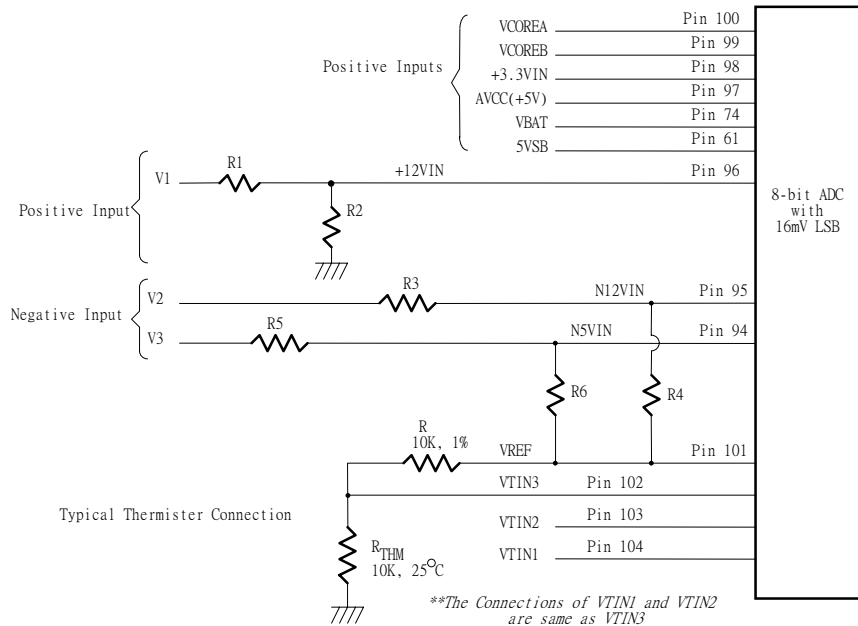

Figure. 9.2
The maximum input voltage of the analog pin is 4.096V because the 8-bit ADC has a 16mV LSB. Really, the application of the PC monitoring would most often be connected to power suppliers. The CPU V-core voltage ,+3.3V ,battery and 5VSB voltage can directly connected to these analog inputs. The +12V,-12V and -5V voltage inputs should be reduced a factor with external resistors so as to obtain the input range. As Figure 9.2 shows.
The negative voltage should be connected two series resistors and a positive voltage VREF (is equal to 3.6V). In the Figure 9.2, the voltage V2 and V3 are two negative voltage which they are -12V and -5V respectively. The voltage V2 is connected to two serial resistors then is connected to another terminal VREF which is positive voltage. So as that the voltage node N12VIN can be obtain a posedge voltage if the scales of the two serial resirtors are carefully selected. It is recommended from Winbond that the scale of two serial resistors are R3=232K ohms and R4=56K ohm. The input voltage of node N12VIN can be calculated by following equation.
The W83697HF can connect three thermistors to measure three different envirmnt temperature. The specification of thermistor should be considered to (1)  $\beta$  value is 3435K, (2) resistor value is 10K ohms at 25°C. In the Figure 9.2, the themistor is connected by a serial resistor with 10K Ohms, then connect to VREF (Pin 101).